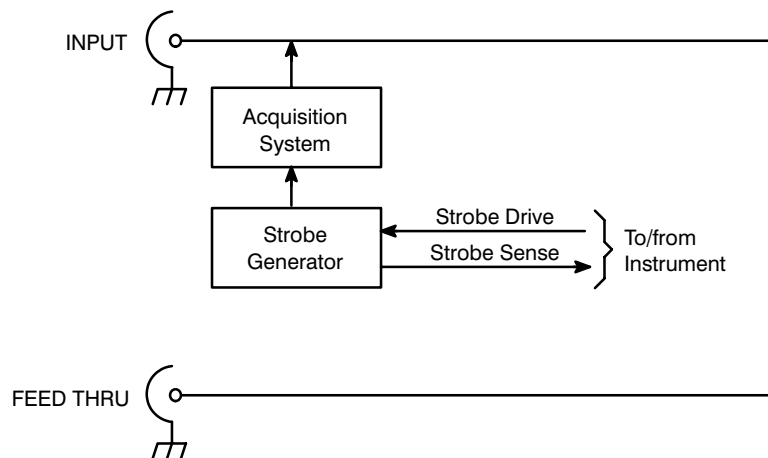

Figure 1: Block Diagram of the Sampling Head
- Figure 1: Block Diagram of the Sampling Head 1
As shown in Figure 1, the SD-20 Sampling Head has a single acquisition channel with a feed thru or loop path (labeled LOOP on the front panel), an INPUT connector, and a FEED THRU connector (both of these connectors are also located on the front panel).